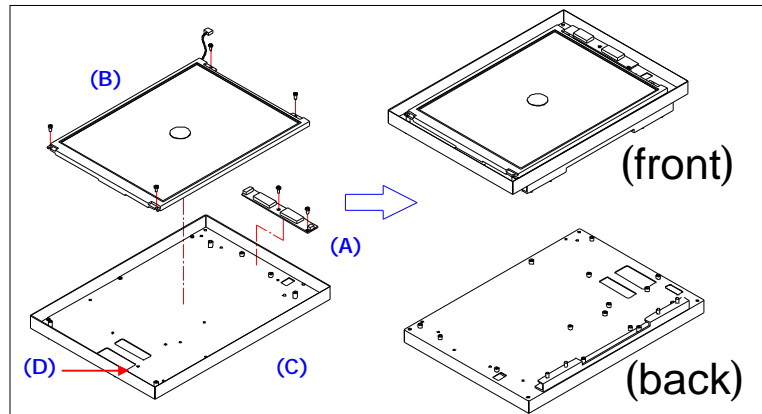
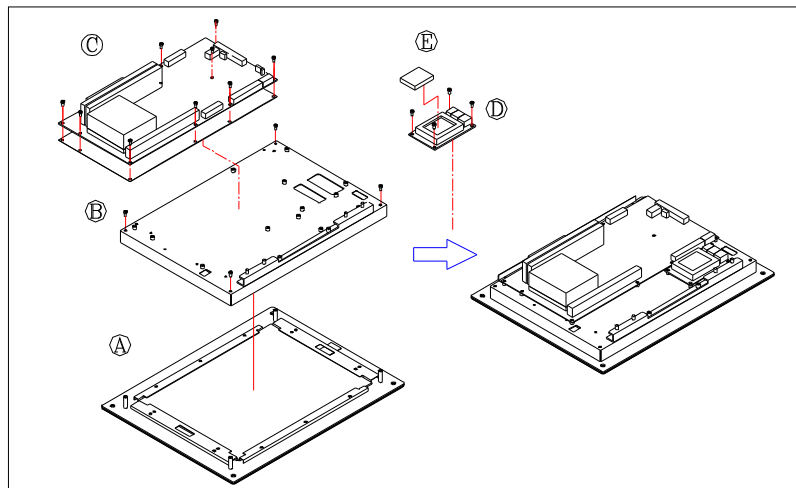

FIGURE 3-2: LCD MODULE ASSEMBLY
FIGURE 3-4: FRONT BEZEL MODULE ASSEMBLY
The following steps illustrate the sequences to assemble the LCD module. Refer to Fig. 3-2.
7. Retain the LCD module (Fig. 3-4, B) and the touchscreen module (Fig. 3-4, A) together with four PMS M3*8 screws. Make sure the touchscreen flat cable is coming through the opening at the LCD holder (Figure 3-2, C) for later connection to the touchscreen controller.
Refer to Fig. 3-4. Follow the steps below to assemble the motherboard to the system chassis. Make sure the CPU with cooling fan and SDRAM are already properly installed to the motherboard before the motherboard is attached to the display metal plate.